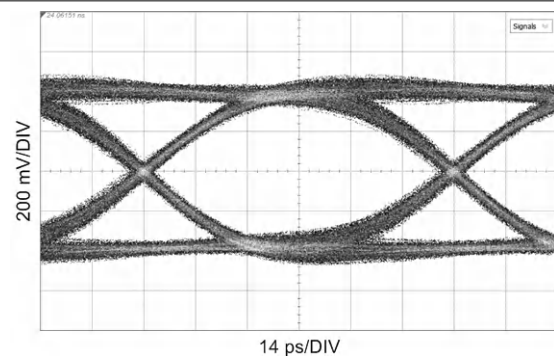

图 7-5. CD Mode at 11.88 Gbps, Measured at SDI\_IO+, 20-in. FR4 Before IN0±
- (1) This parameter is measured with the LMH1297EVM (Evaluation board for LMH1297).
- (2) This limit is ensured by bench characterization and is not production tested.
- (3) VOVERSHOOT overshoot/undershoot maximum measurements are largely affected by the PCB layout and input test pattern. The maximum value specified in Figure 7.5 for VOVERSHOOT is based on bench evaluation across temperature and supply voltages with the LMH1297EVM.